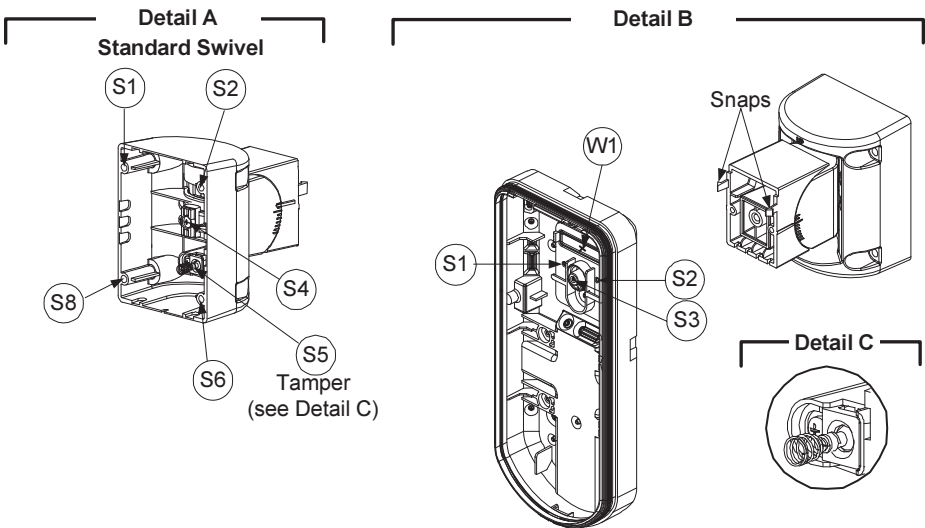

Figure 8
3. Remove back tamper from the internal base (see the "Changing Back Tamper Position" paragraph on page **Error! Bookmark not defined.**) and connect it to S5 (Figure 8, Detail A) on the Standard Swivel.
1. Insert back tamper wires through the Swivel Wires Passage (Figure 8, Detail B).